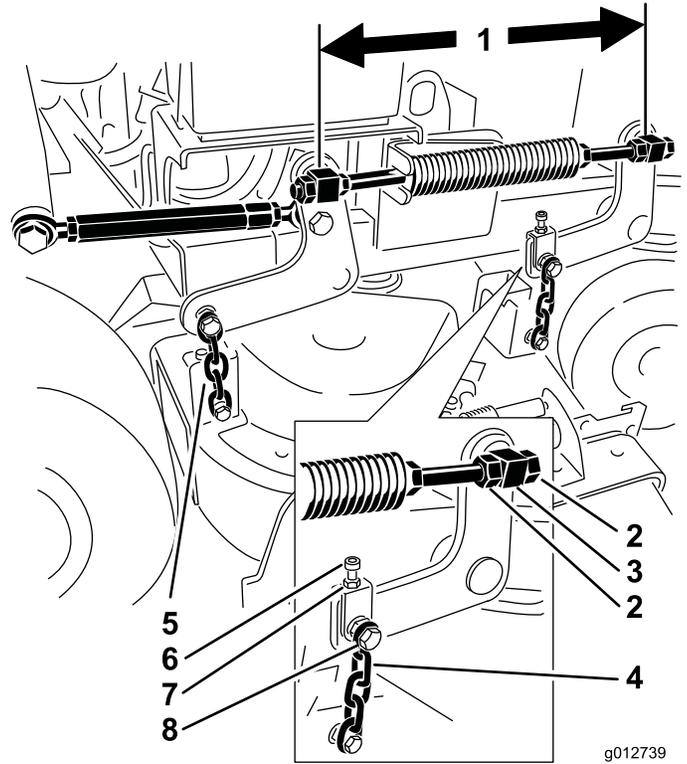

Figure 82
6. Check the distance between the swivels, measure at the center of the swivels (center-to-center length) on the threaded rod. This length needs to be 19-1/2 inches (49.5 cm) for 36in mower decks and 17-3/16 inches (43.7 cm) for 40in mower decks (Figure 82).
9. Use the jam nuts at the front swivel to adjust the length between front and rear swivels on that side (Figure 82).
11. Use the adjustment bolt to get equal tension on both front chains (Figure 82).
5. Loosen the nut on the upper chain bolt and the jam nut on the adjustment bolt (Figure 82).
6. Use the adjustment bolt to achieve 1/4 to 3/8 inch (6 to 10 mm) lower in front at **A** than in the rear at **B** (Figure 82).